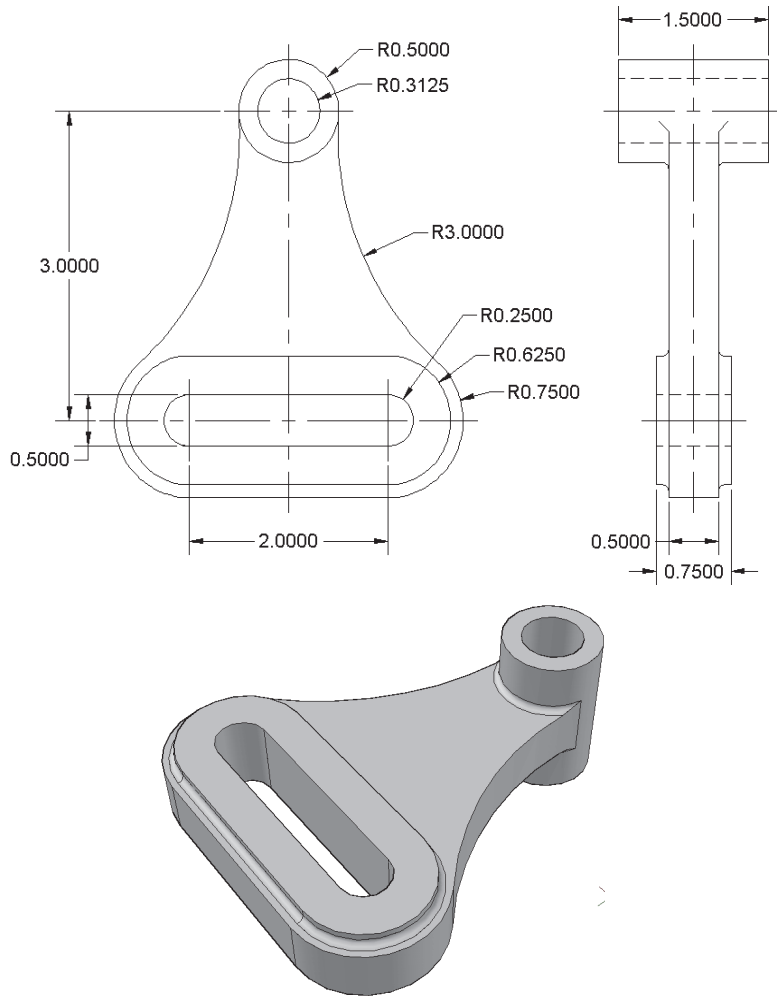

Figure 6–33
In this practice you will create the mechanical part shown in Figure 6–33 using solids and solid editing tools. The exact process is up to you.
- Use solids to draw the object shown in Figure 6–33. Unless otherwise specified, all fillets are **0.1**.